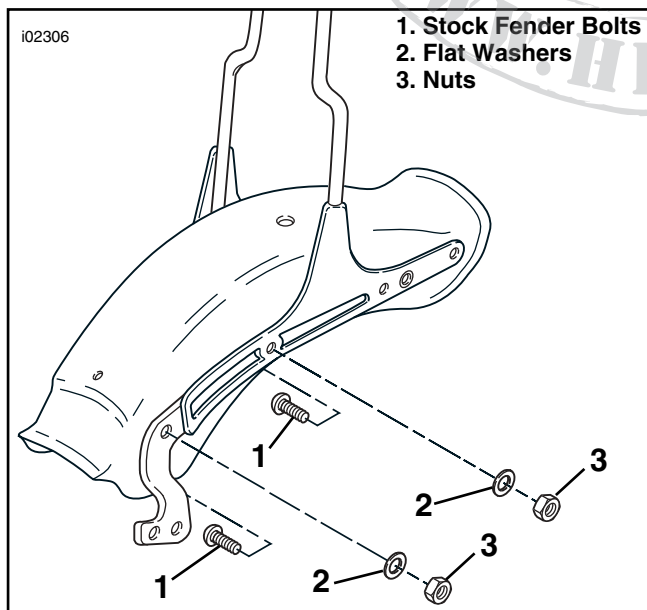

Figure 1. Fender Hardware Removal, 1984-1999 Models
1. See Figure 1. Remove the two forward rear-fender bolts (1), washers (2) and nuts (3) on one side of the vehicle. Discard the bolts, but save the nuts and washers for re-use.